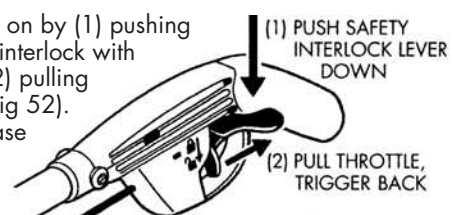

FIG 52
Switch motor on by (1) pushing down safety interlock with thumb and (2) pulling on trigger. (Fig 52). To stop, release trigger.